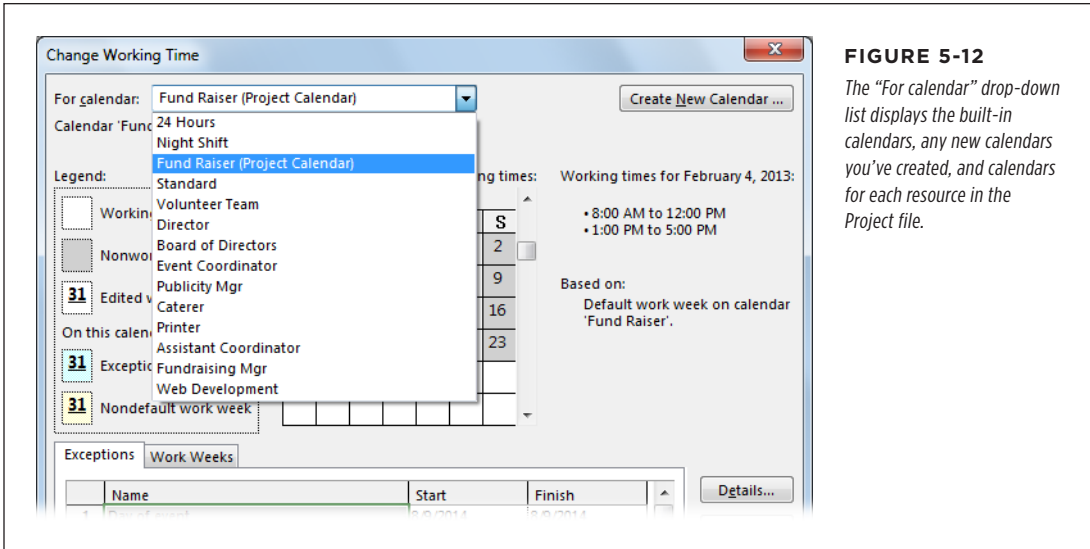

FIGURE 5-12
2. In the “For calendar” drop-down list, choose the calendar you want to modify, as illustrated in Figure 5-12.